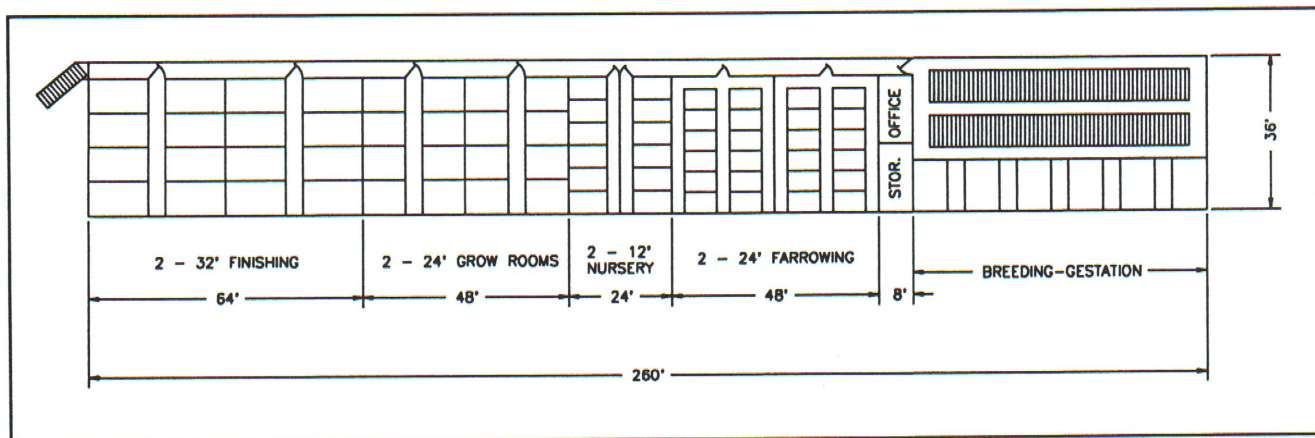

Figure 1. Production-line System, 100 Sow Herd.
**Production-line system.** The production-line system was developed as an in-line system because of the ease of moving pigs. In systems with separate buildings, it is difficult to move pigs from one building to another even though the buildings are connected with a paved walkway. One person can move pigs almost any place within the production-line system as shown in Figure 1.
The 36 ft by approximately 260 ft building shown in Figure 1 will handle a 100-sow herd producing about 1,800 pigs per year. Each 12-sow farrowing room would have sows farrowing once each 6 weeks. It would be possible to wean at about 4 1/2 weeks and leave the pigs an additional week before moving them into the nursery. They could be in the nursery unit 6 weeks, in the grower for 6 weeks and in the finishing unit for 6 weeks for a total of 6 months from birth to market. Expansion could be accomplished by lengthening the building for more frequent farrowings. Additional units could be located alongside this one.